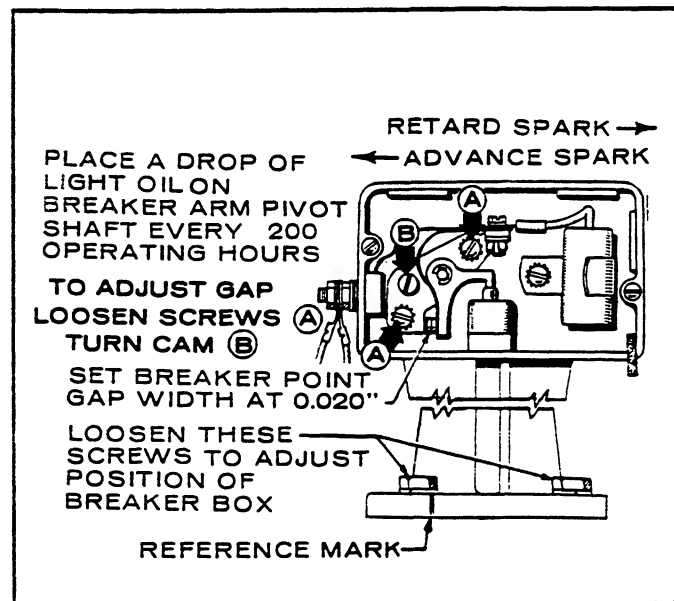

FIGURE 10. BREAKER POINTS
1. Remove the cover of the breaker box, Figure 10.
5. Turn the point adjusting cam screw (B) until the point gap is $.020''$ and tighten mounting screws (A) as shown in Figure 10.